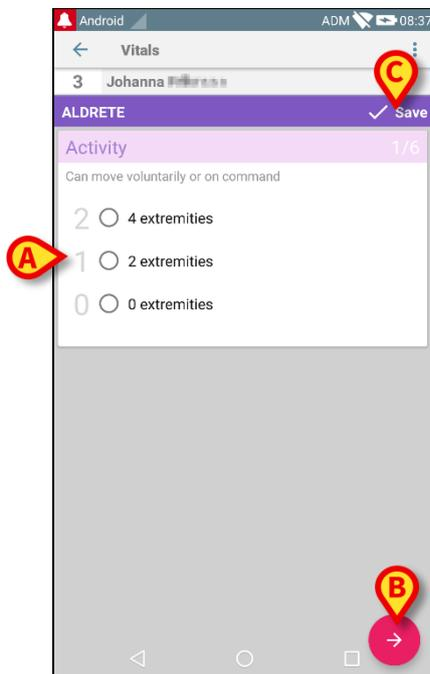

Fig 52
NOTE: the data entry screen features depend on the kind of dataset selected. See Fig 52 for an example.
- Insert the required value/s on each screen (Fig 52 **A** and Fig 53 **A**).
- Move to next/previous screen using the arrows indicated in Fig 52 **B** and Fig 53 **B**.
- touch **Save** to save the dataset (Fig 52 **C** and Fig 53 **C**). The **Cancel** option closes the data entry screen.